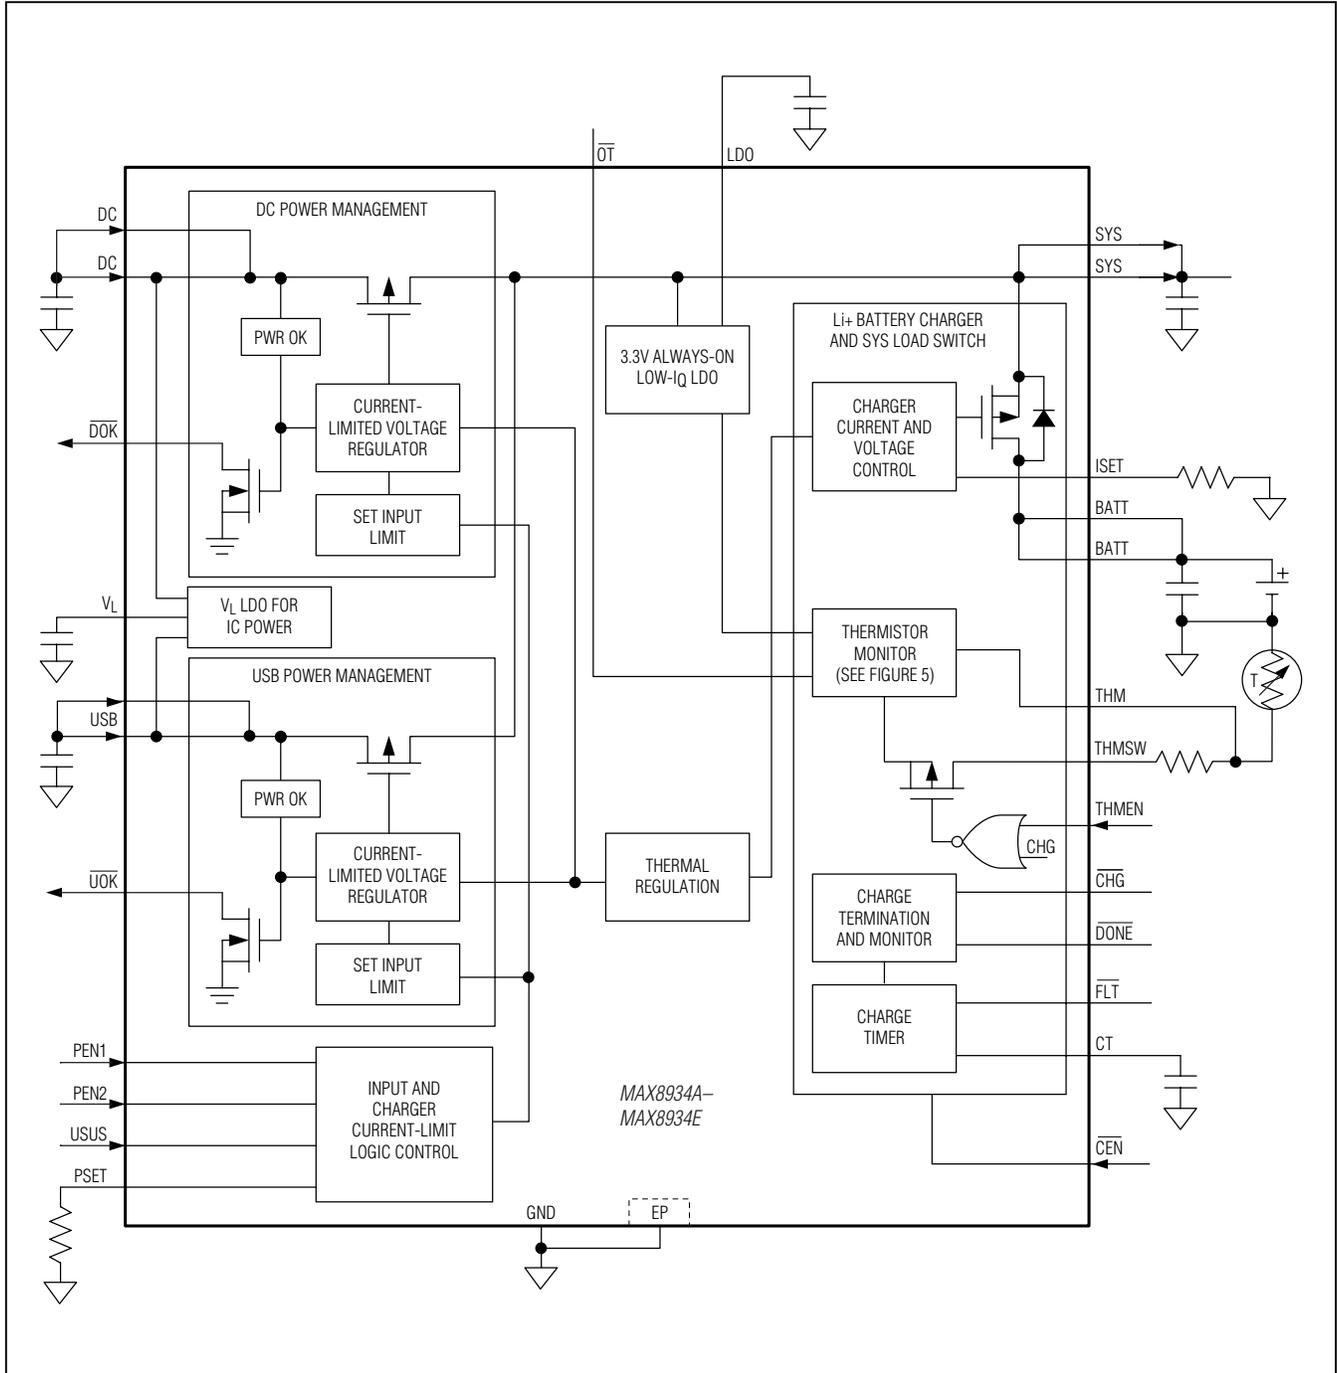
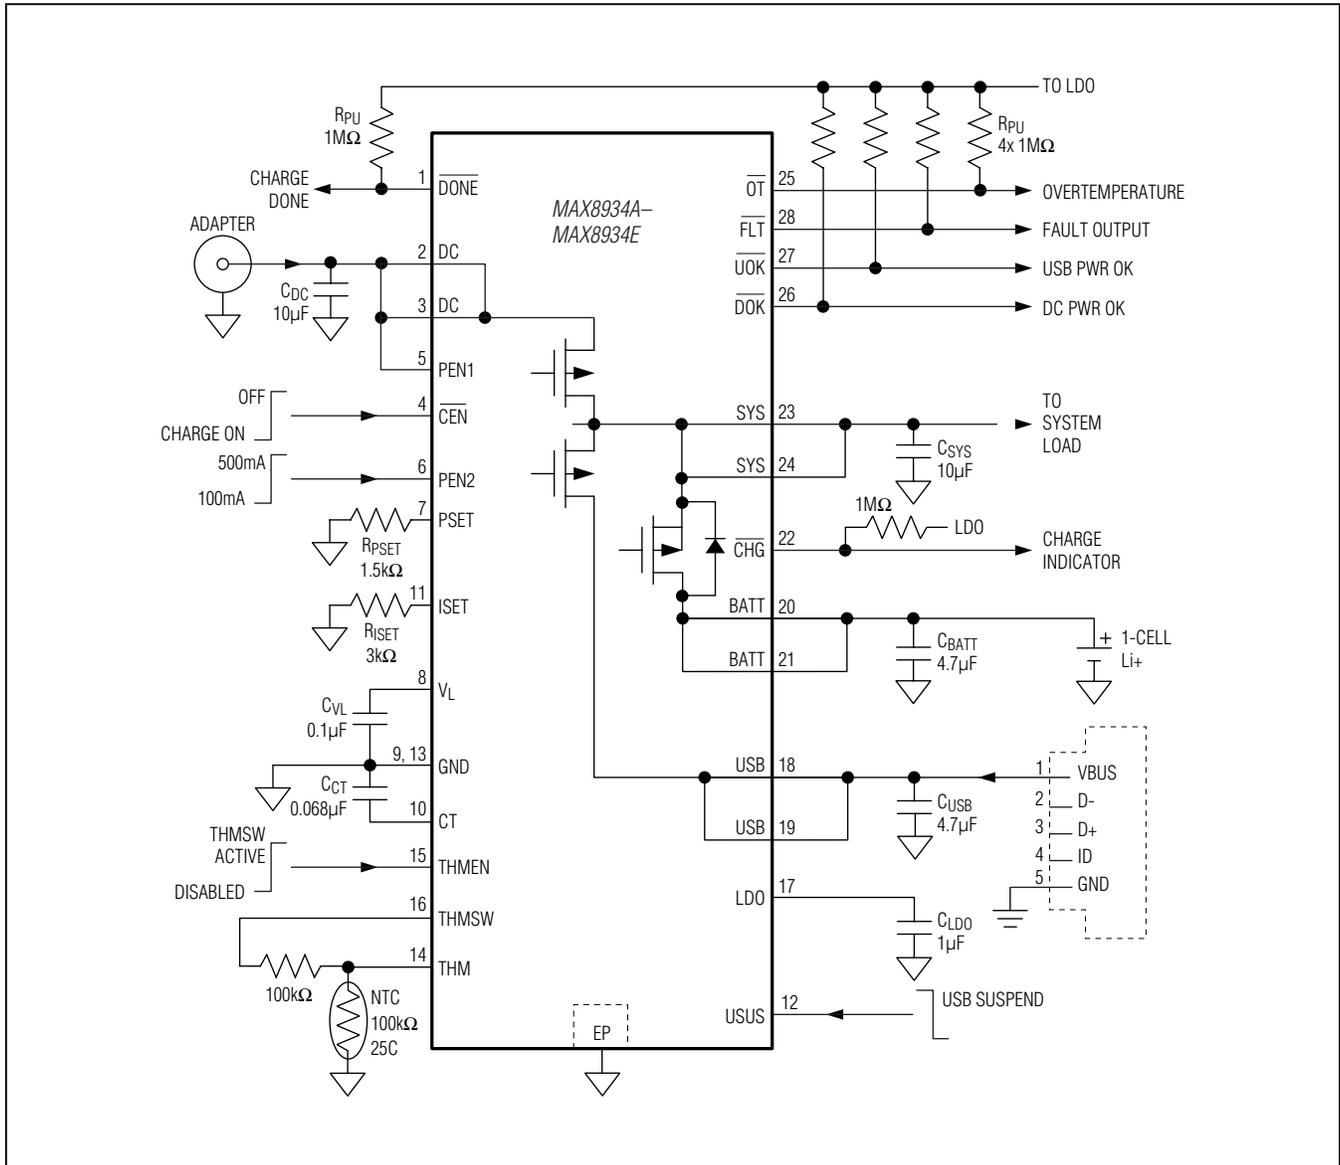
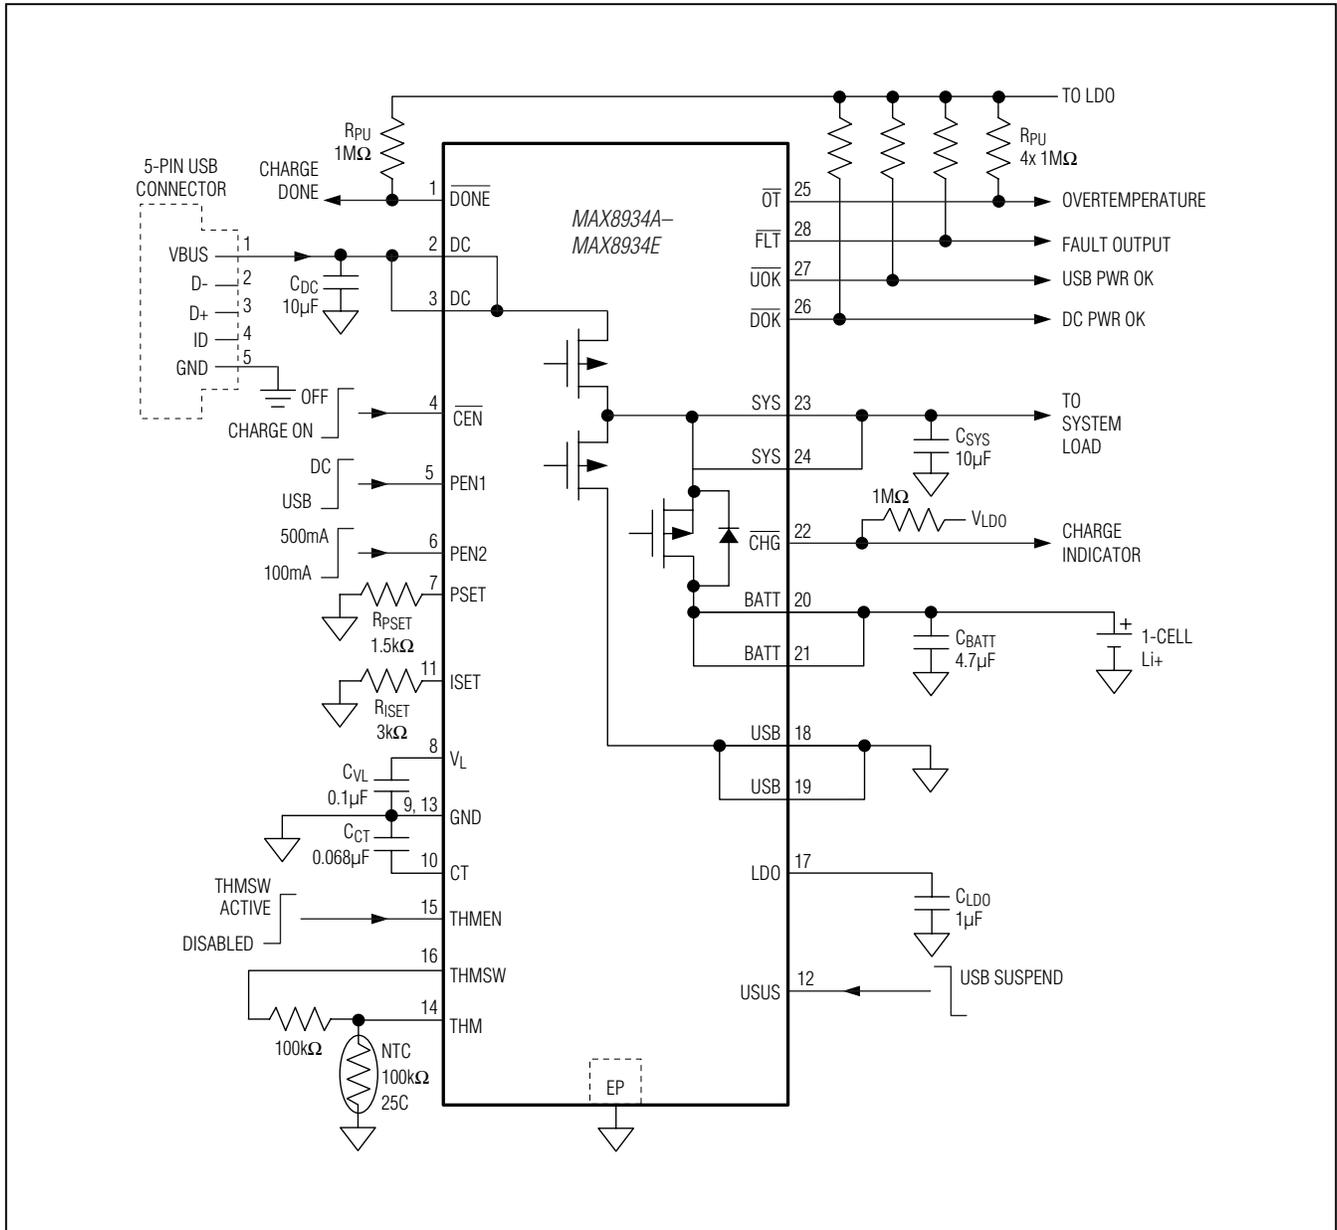

Figure 1. Block Diagram
Figure 2. Typical Application Circuit Using Separate DC and USB Connector
Figure 3. Typical Application Circuit Using a 5-Pin USB Connector or Other DC/USB Common Connector
(MAX8934A,  $T_A = +25^\circ\text{C}$ , circuit of Figure 2,  $V_{DC} = 6\text{V}$ ,  $V_{BATT} = 3.6\text{V}$ , thermistor Beta = 3964, unless otherwise noted. Negative battery current indicates charging.)
**Table 1. External Components List for Figures 2 and 3**
The MAX8934\_ is a dual-input linear charger with Smart Power Selector that safely charges a single Li+/Li-Poly cell in accordance with JEITA specifications\*. The MAX8934\_ integrates power MOSFETs and control circuitry to manage power flow in portable devices. See Figure 1. The charger has two power inputs, DC and USB. These can be separately connected to an AC adapter output and a USB port, or the DC input could be a single power input that connects to either an adapter or USB. Logic inputs, PEN1 and PEN2, select the correct current limits for two-input or single-input operation. Figure 2 is the typical application circuit using separate DC and USB connectors. Figure 3 is the typical application circuit using a 5-pin USB connector or another DC/USB common connector.